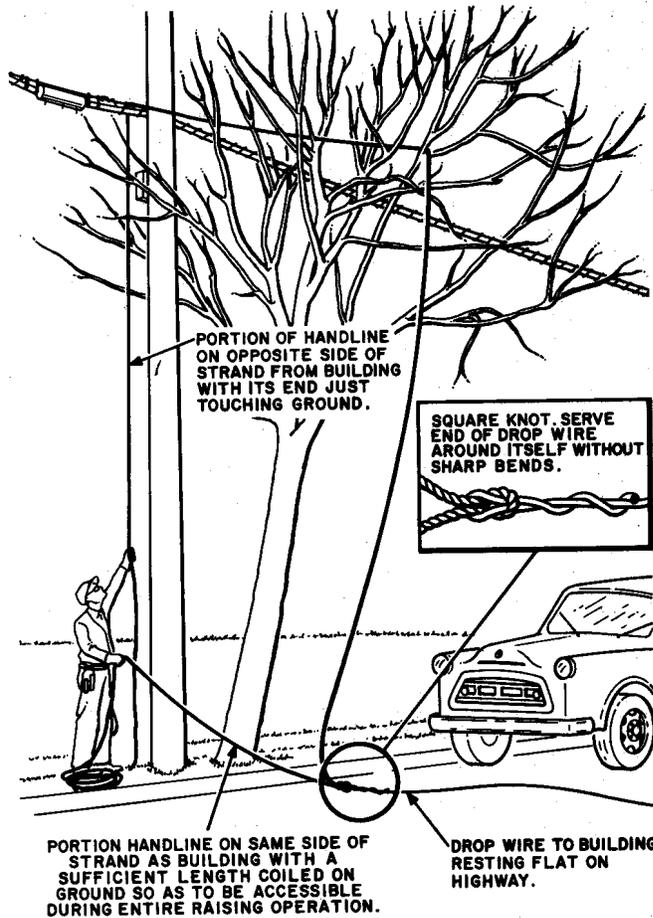

Fig. 7—Drop Wire Tied to Handline
(1) Place handline over strand, guard arm, drive hook, or cross arm and among the tree branches as illustrated in Fig. 7, so that the drop wire may be raised into position. A
(2) Place the drop wire as covered in 3.01 (a), (c), and (d) and raise the wire at the pole of strand end of the span as follows:
- (b) Tie the drop wire to the handline as shown in Fig. 7. The handline must be long enough so that both ends are accessible from the ground during the entire raising operation.